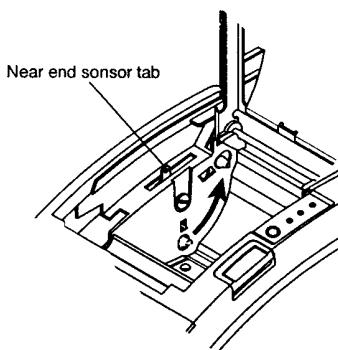

Figure 3-6 Wall Mount #2
2. Loosen the detector screw with a coin or similar tool. Pull the Near-End Sensor Tab until Near-End Sensor is placed in the other hole. While pulling the Tab, tighten the detector screw. (Figure3-6)